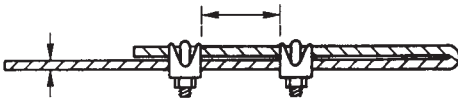

Figure 4
**IMPORTANT NOTICE:** It is important to note proper installation position of the cable clamps as illustrated in Figure 4. To obtain maximum holding power, install U-bolt section of clip on dead or short end of cable and saddle on long end of cable. Improper installation reduces the efficiency of the connection by as much as 40 percent.